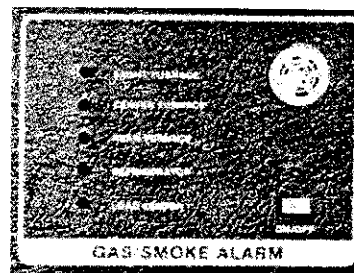

Figure 3-17. Gas/Smoke Alarm
The gas/smoke alarm, figure 3-17, is a gas leak detector designed to sense dangerous concentrations of LP gas or carbon monoxide within the coach. There are four (4) sensors mounted at floor level (LP gas is heavier than air) for the three furnaces and the refrigerator. One sensor is located above the 120 volt ac distribution panel (load center) to monitor carbon monoxide. Carbon monoxide, of course, is the most deadly of the products of combustion. It will provide an alert in the event of a short circuit, at the load center, causing an electrical fire.